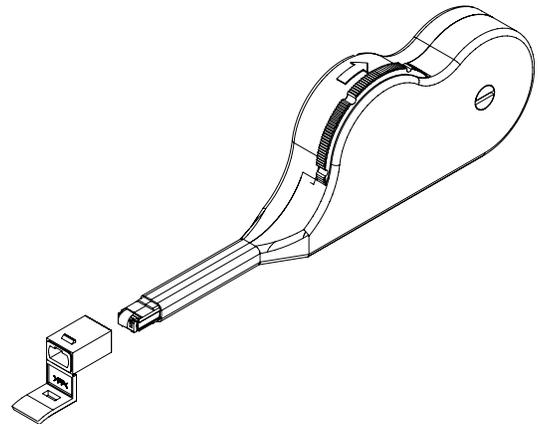

Figure 4
- To clean the MTP connector and adapters, use the MTP cleaning tool (p/n 2104466-01) provided in the Plug & Play™ Cleaning Kit (Figure 4).